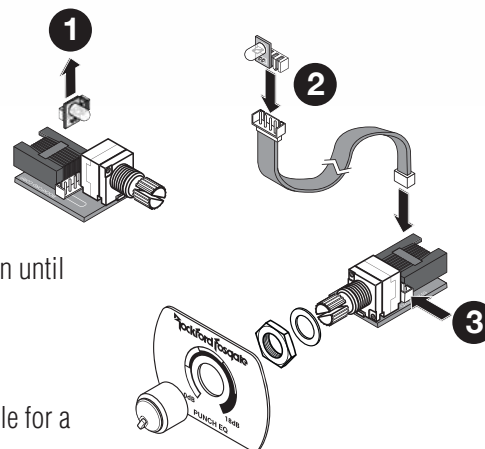

Figure 3
1. Remove the LED from the remote assembly by pulling straight up, Figure 3